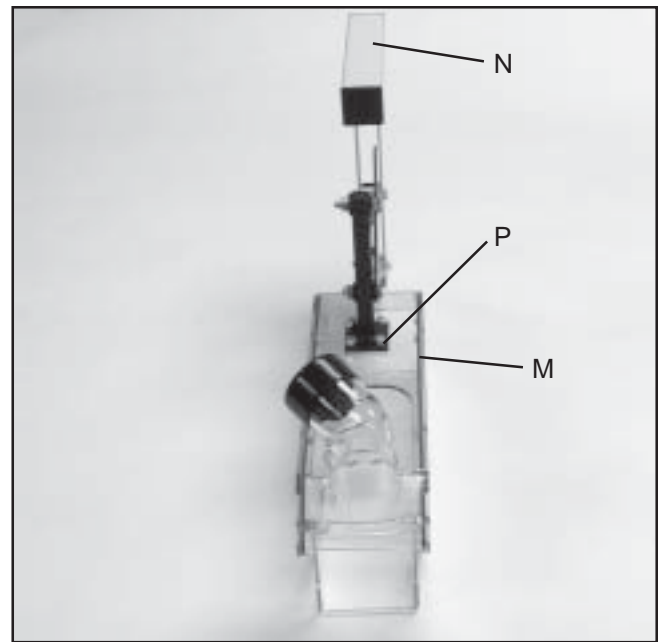

Fig. 19
18. Make certain the hood assembly (M) Fig. 19, is in line with the basket body assembly (N). When you are certain hood assembly (M) is in line with basket body assembly (M), tighten 4 screws (P).